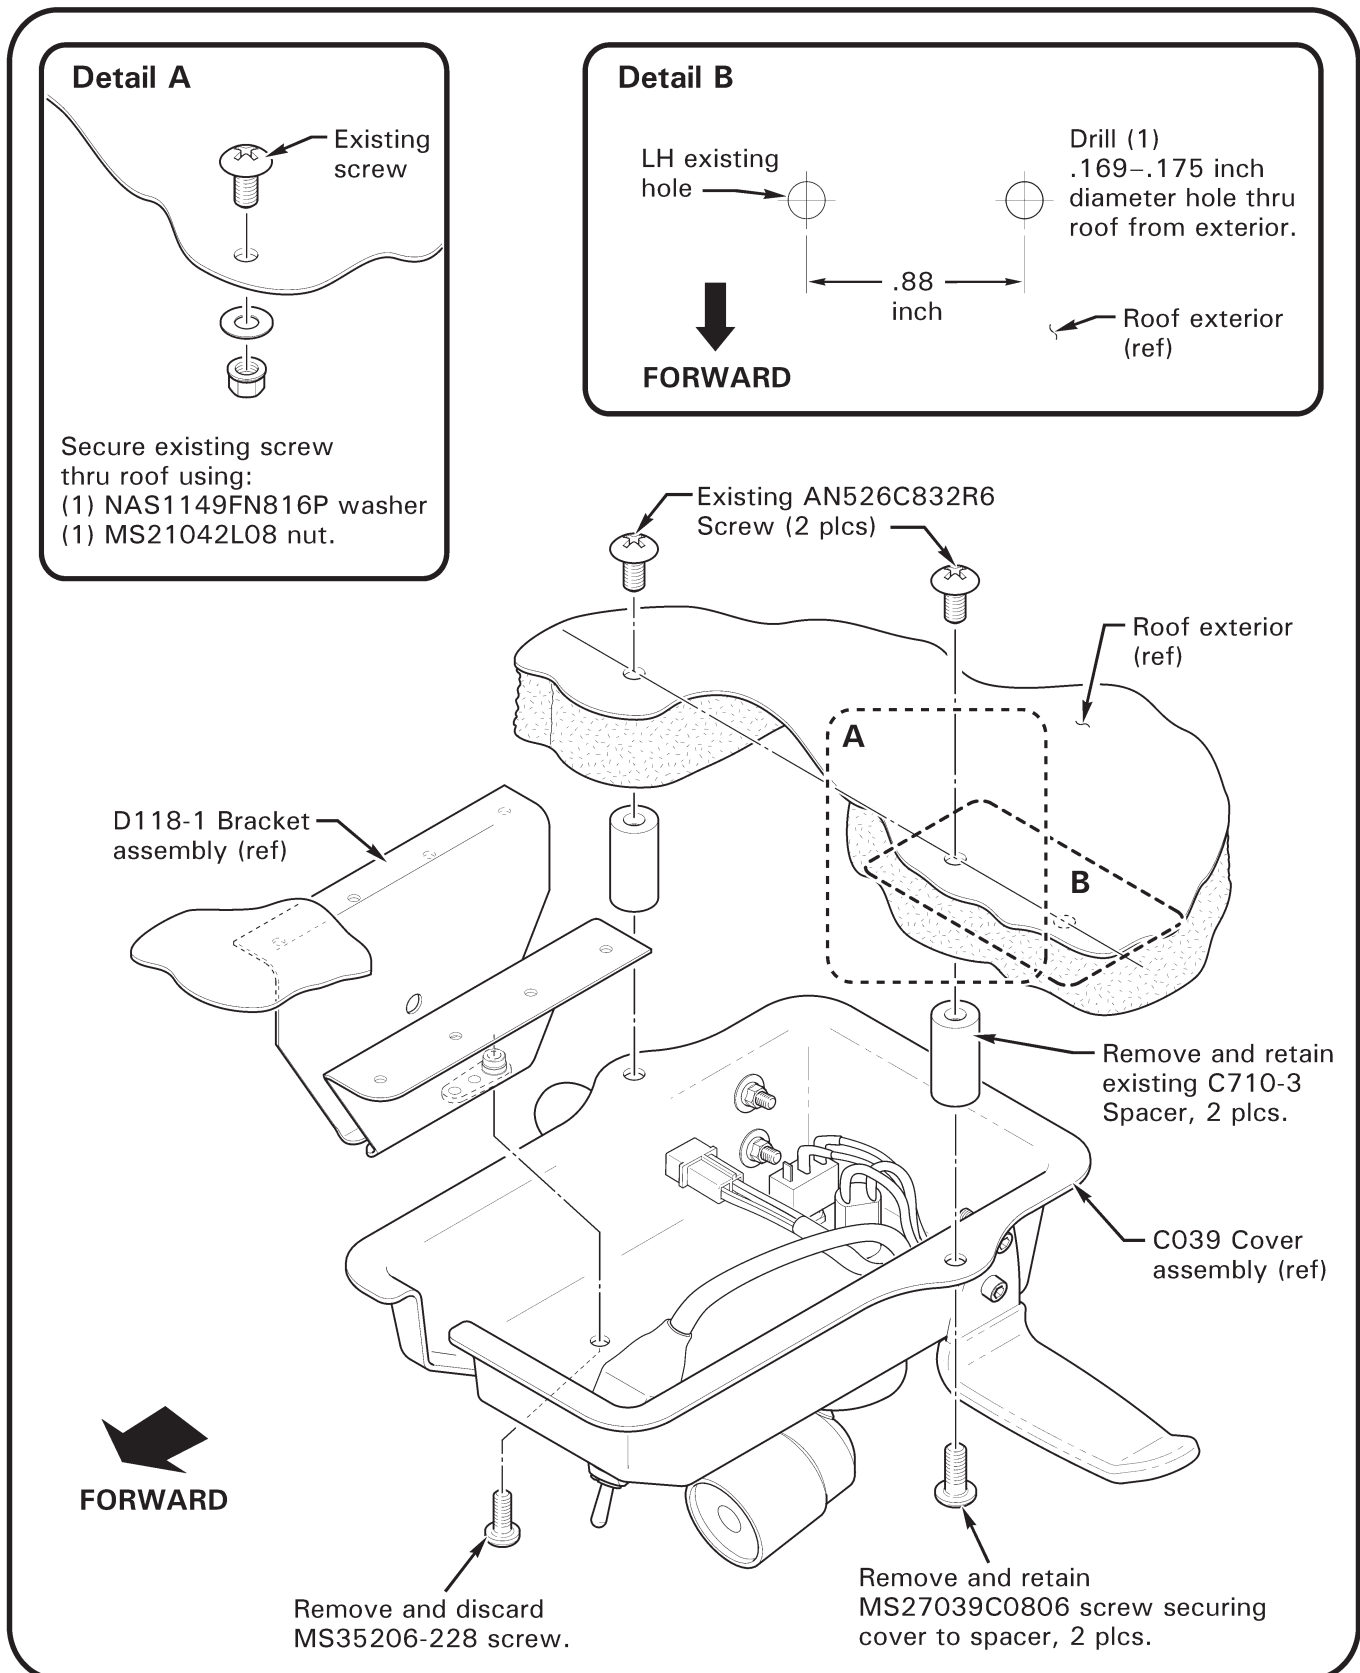

FIGURE 1 Existing C039 cover assembly installation
3. Refer to Figure 1. Remove and discard screw securing C039 cover assembly to D118-1 (rotor brake) bracket assembly; remove and retain screws securing cover to C710 spacers. Lower cover and disconnect cover wiring from airframe harness. Remove cover.
5. Refer to Figure 1. Layout dimension on exterior roof for drilling new hole as shown in Detail B, using straight edge to maintain lateral alignment with existing holes. Using a drill stop, drill (1) .169–.175 inch diameter hole. Deburr hole and clean up debris. Using a pick or similar tool, pierce headliner at newly drilled hole. Install new AN526C832R6 screw (provided).
6. Refer to Figure 1. Remove C710-3 spacer from center screw and secure screw to roof using (1) NAS1149FN816P washer and (1) MS21042L08 nut as shown in Detail A. Install spacer to newly installed AN526C832R6 screw.